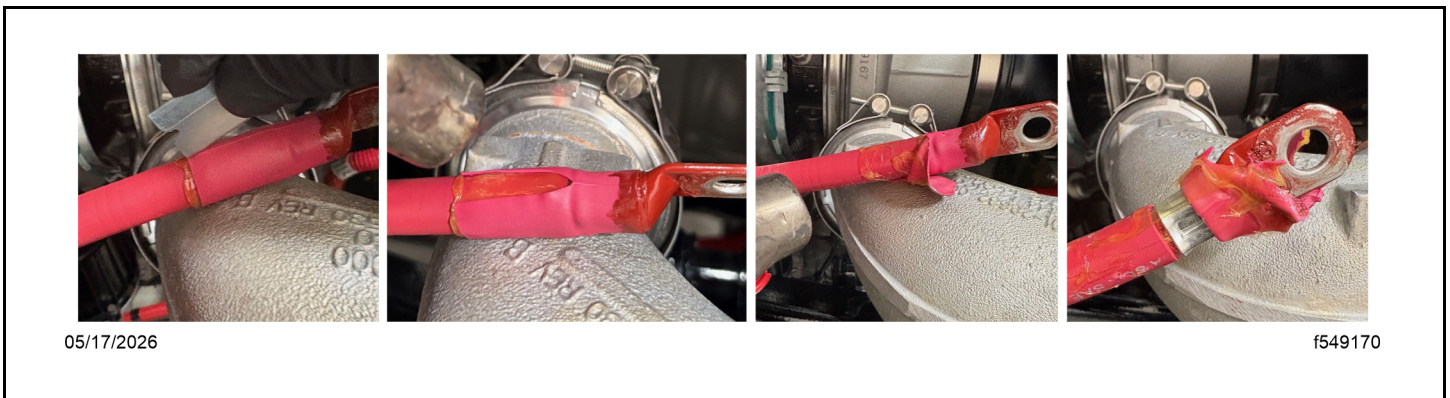

Fig 117, Heat Shrink Removal
- b. Remove the original heat shrink. To do so, heat it, score it, and continue to heat it until the score splits and the adhesive softens. See Fig. Fig. 117.